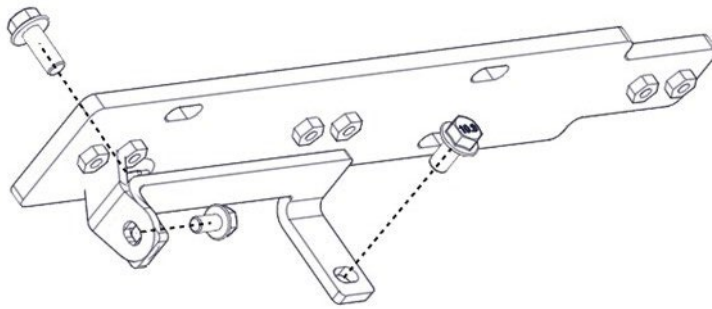

Figure 45.
4. Remove the bolts (Figure 45) from the thermostat housing bracket.